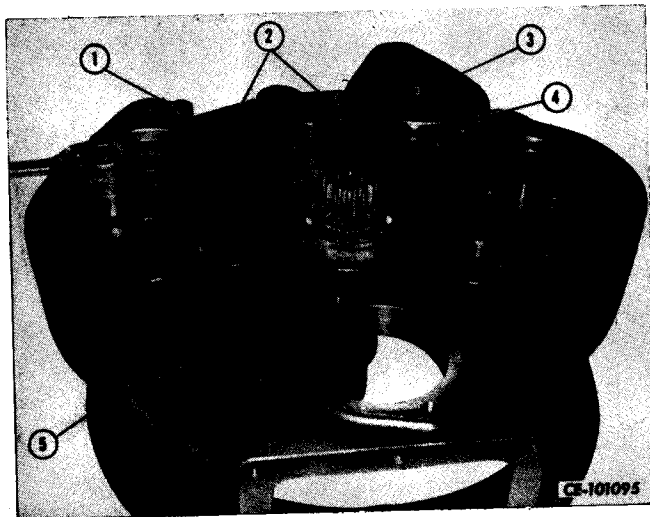

Figure 3-32
Remove cap screws securing pump adapter plates (2, Fig. 3-32) to converter housing (5) and use as jack screws (1) to remove plates. Drive seals (3) from plates. Discard seals and "O" rings (4).